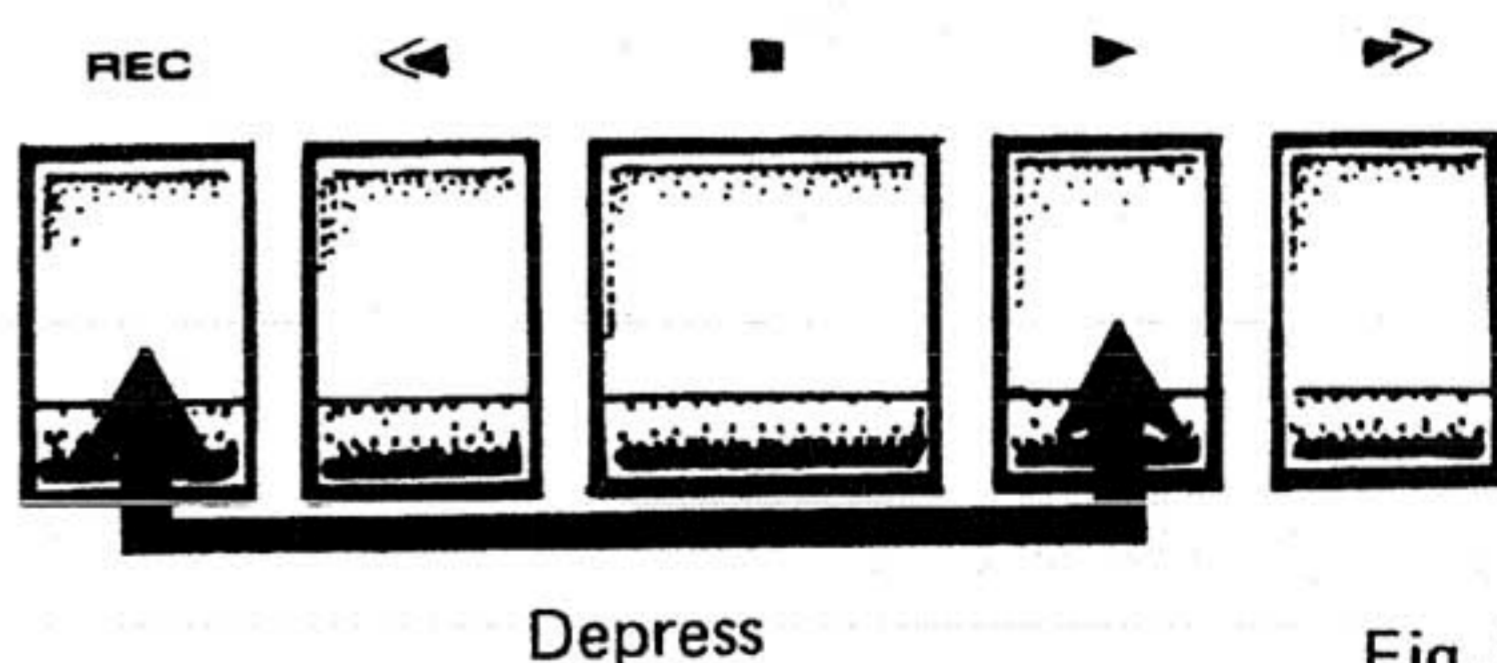

Fig. 26
8. Push the REC and ▶ PLAY buttons simultaneously (Fig. 26). The recording indicator lights up, the tape begins to travel, and recording starts.